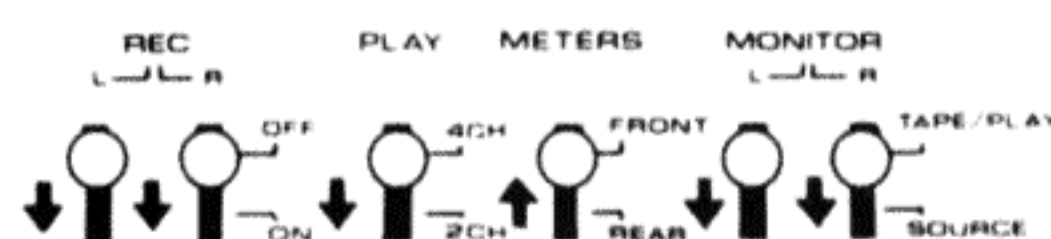

Fig. 42
3. Set both REC switches at ON. Set the PLAY switch at position 2CH (Fig. 42).